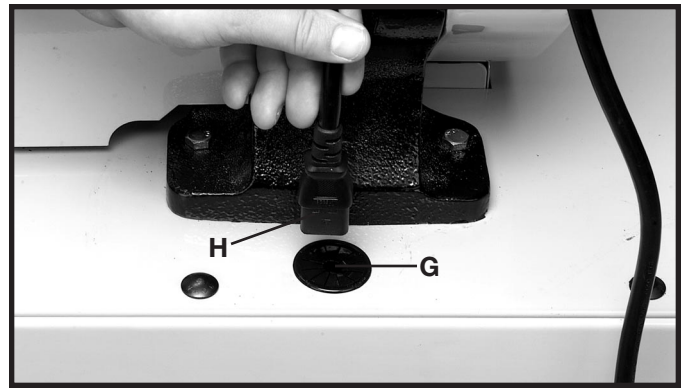

Fig. 39
7. Insert the switch cord (H) Fig. 39, through the hole in the cord bushing (G).